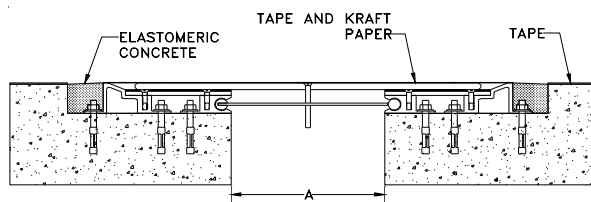

Figure 12
STEP 8. Pour the Balco Elastomeric Concrete - EC11 into the block out and trowel smooth from the upper outer edge of the joint system to the block out corner (Figure 12).